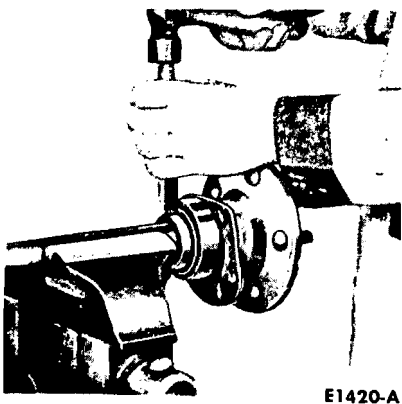

FIG. 6—Removing Rear Wheel Bearing Retainer Ring
4. If the rear wheel bearing is to be replaced, loosen the inner retainer ring by nicking it deeply with a cold chisel in several places (Fig. 6). It will then slide off easily.